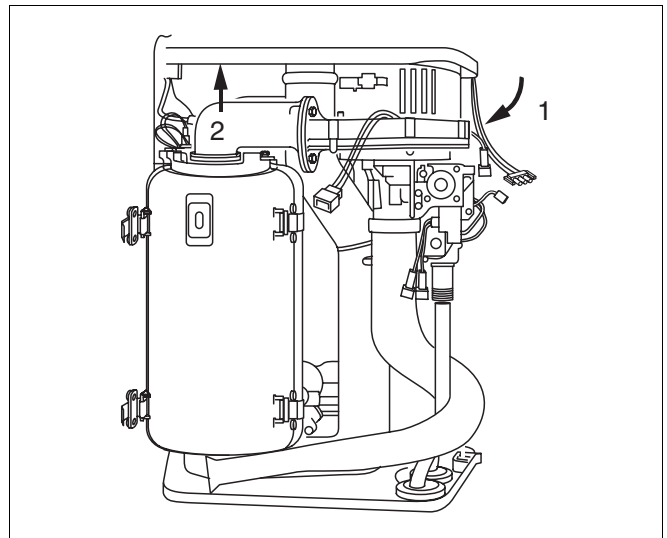

Fig. 57 Replacing the fan on the 600 Series:
- Swivel the "CombiVENT" gas combination unit forward (fig. 57, item 1)
- Remove the "CombiVENT" gas combination unit from its bayonet connector and pull upwards to detach (fig. 57, item 2).